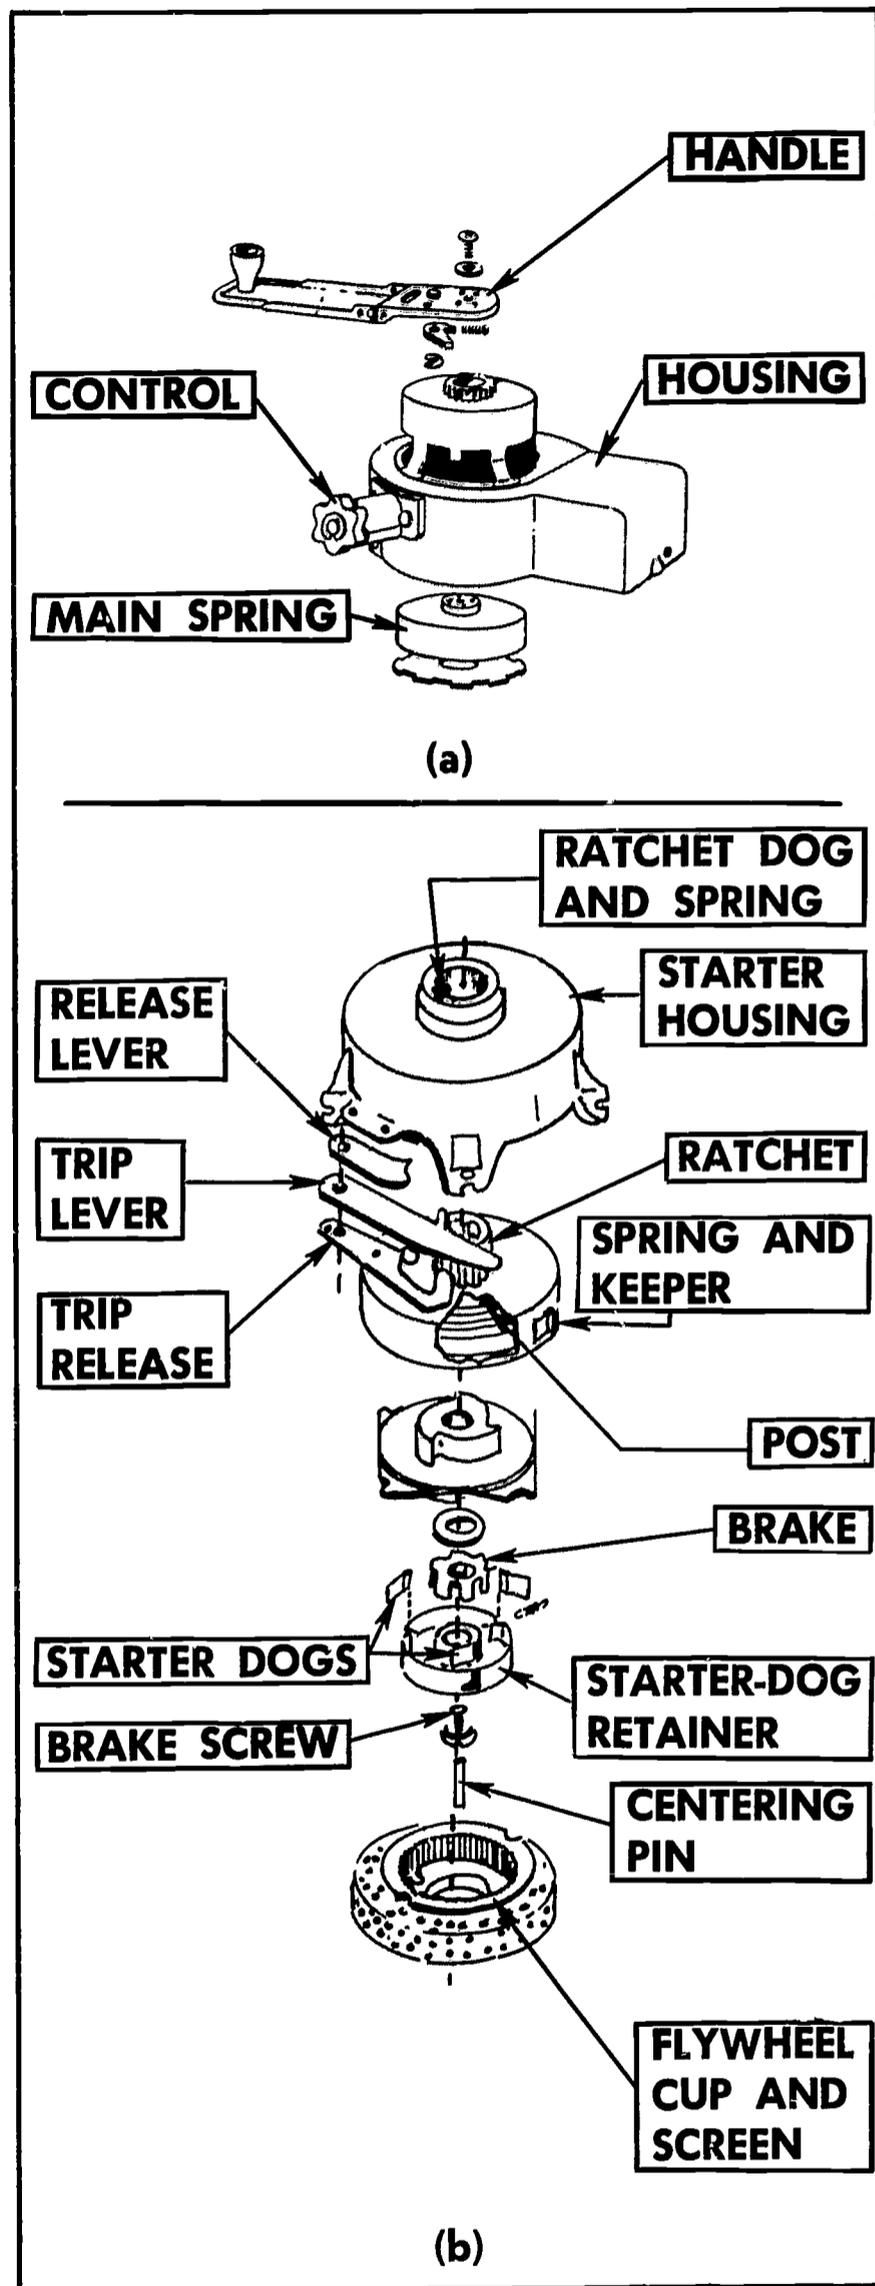

FIGURE 44. (a) A typical windup starter of the type that must be disassembled from the handle end. (b) One from which the drive mechanism is first removed.
3. Disassemble the starter (Figure 44).